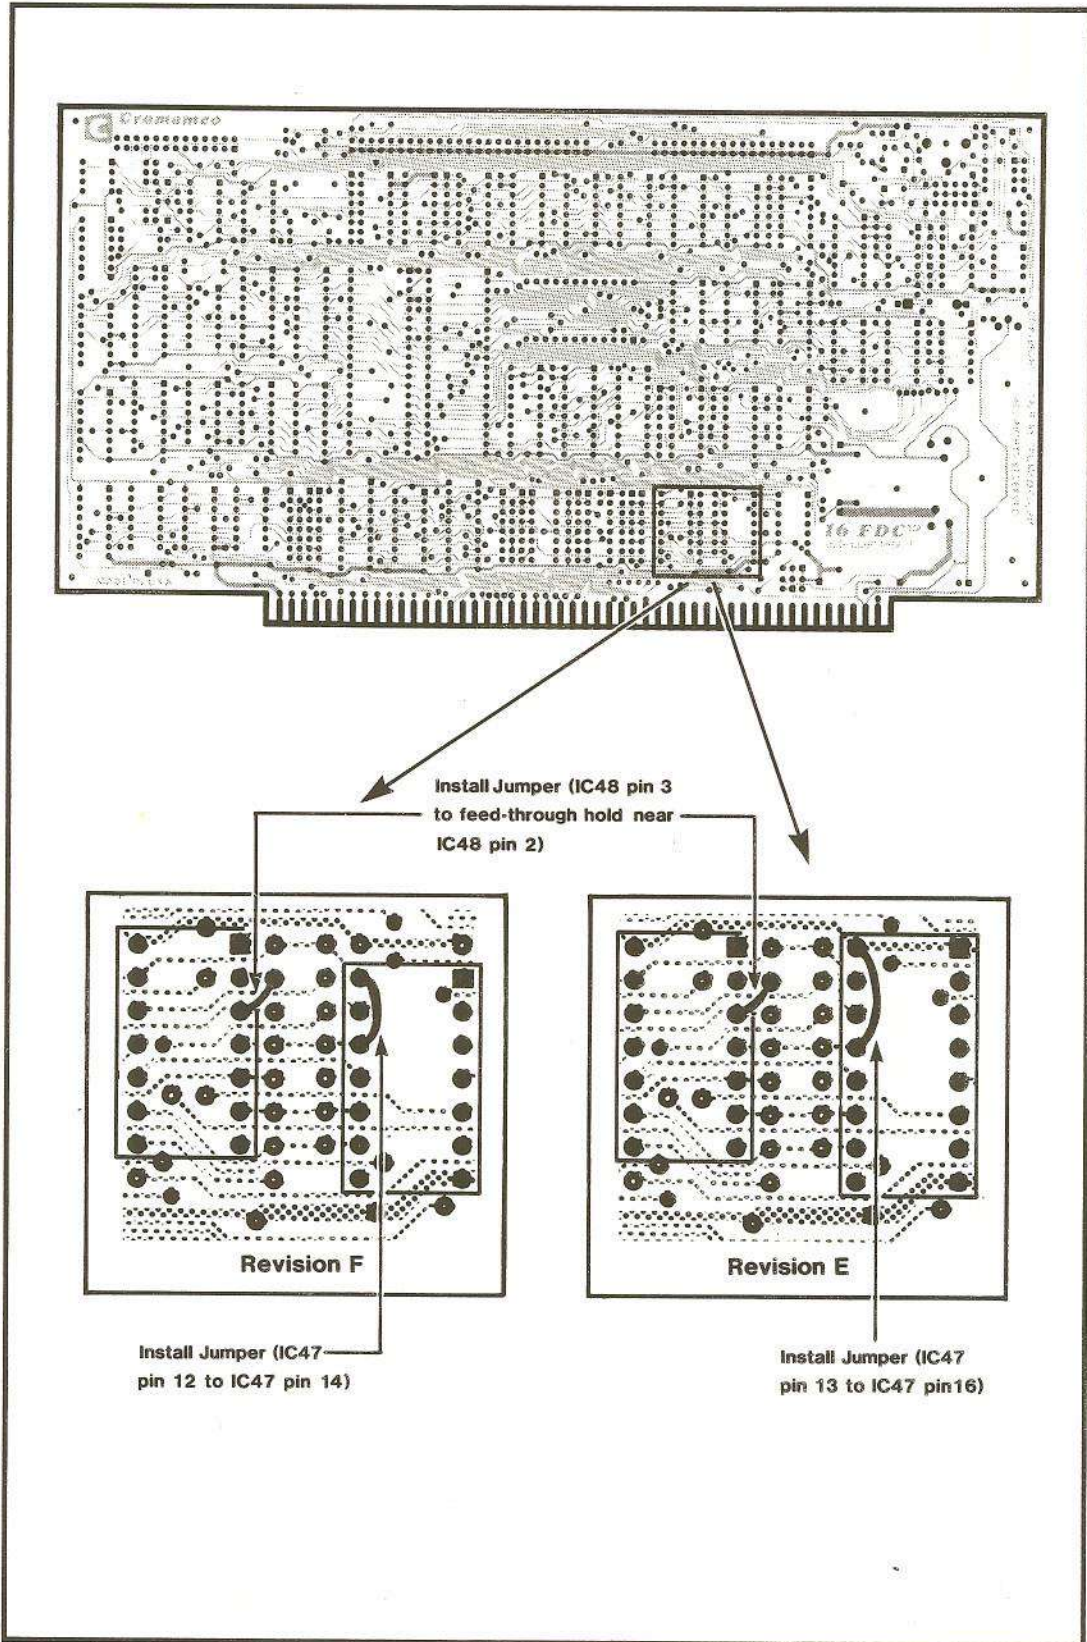

Figure 3: 16FDC BOARD (Solder Side)
1. Install a jumper wire between IC48 pin 3 and the feed-through hole near IC48 pin 2 (Figure 3).
2. If you have a **revision F** board, install a jumper wire between IC47 pin 12 and IC47 pin 14 (Figure 3).
If you have a **revision E** board, install a jumper wire between IC47 pin 13 and IC47 pin 16 (Figure 3).